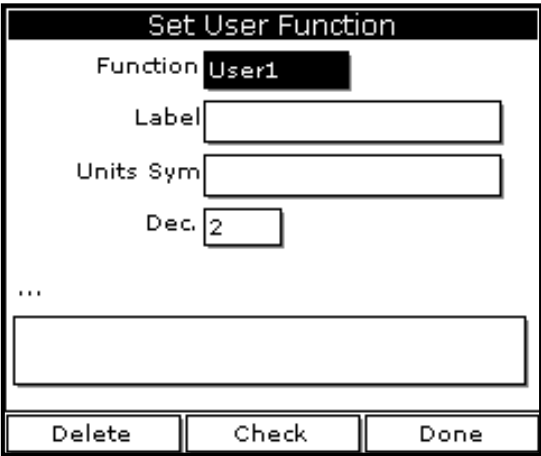

Figure 24: User Functions Window
- 3. Use the arrow key to scroll to User Functions and press **[ENTER]**. A screen similar to *Figure 24* appears.